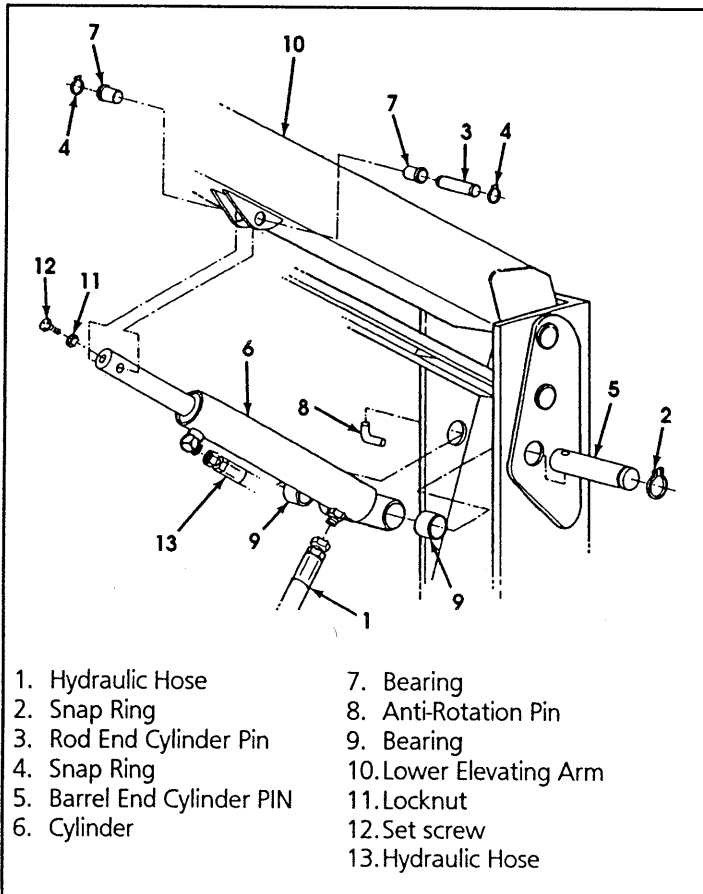

Figure 4-14: Lift Cylinder Installation
4.13 Lift Cylinder (Figure 4-14)
INSTALLATION (Figure 4-14)